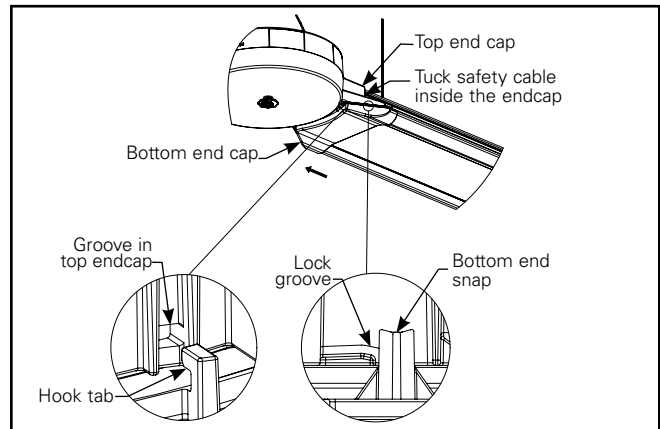

Figure 12.4.
- C. Locate bottom end cap from bottom till it contacts with top end cap surface (Figure 12.4).